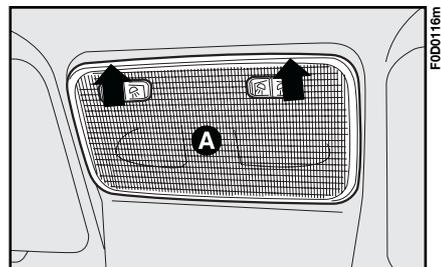

fig. 29
1) Remove the clipped-on lens **A**-fig. 29 with a screwdriver as shown in the figure.